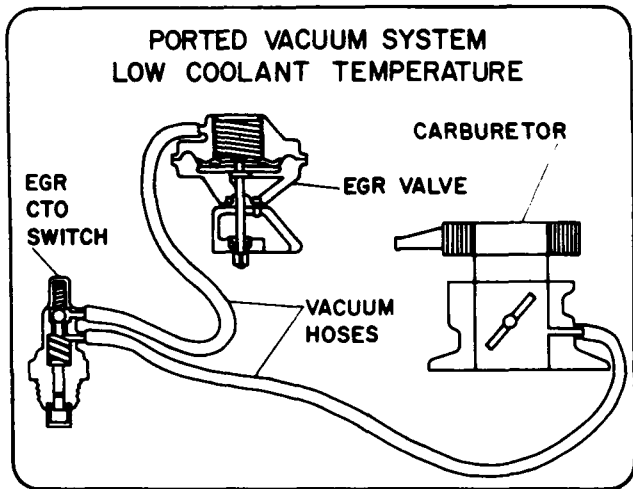

Figure 8-15
2. Figures 8-15 and 8-16 show a ported vacuum and venturi vacuum EGR system. List the basic steps necessary to operationally test these systems with coolant temperature below 80°F.